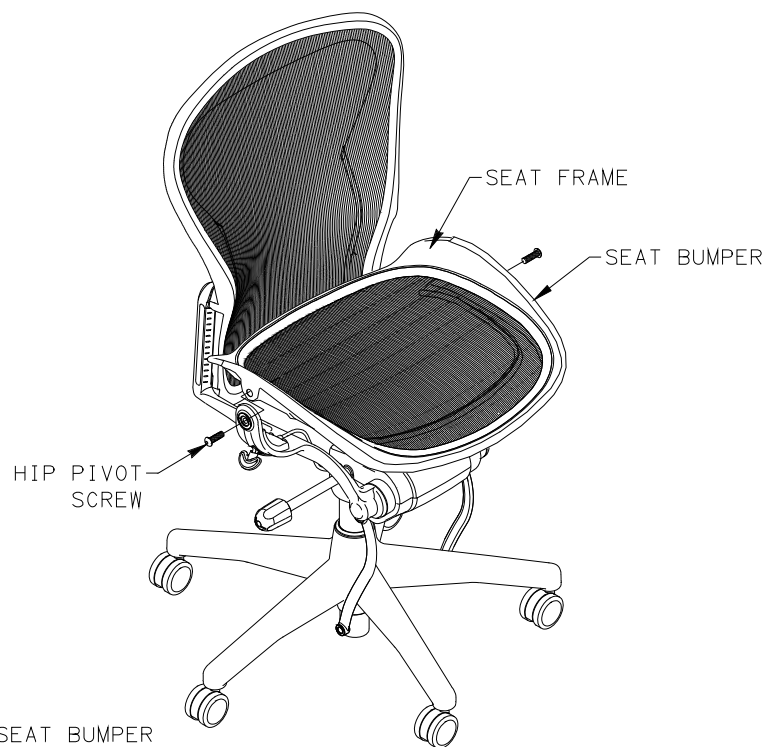

FIGURE 5
4. PLACE FRAME WITH SEAT BUMPER BETWEEN SWING ARMS. ATTACH SEAT FRAME TO SWING ARMS WITH HIP PIVOT SCREWS. TIGHTEN AND TORQUE TO 180-200 IN-LB. SEE FIGURE 5.